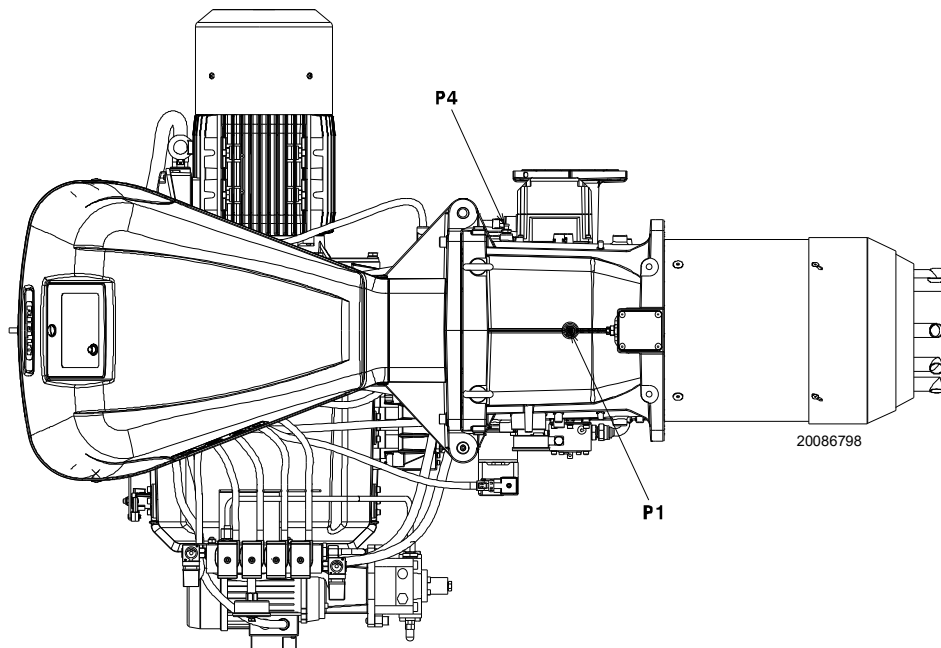

Fig. 26
Gas pressure measured at the test point P1)(Fig. 26), with:
- subtract the combustion chamber pressure from the gas pressure measured at test point P1) (Fig. 26 on page 29).
Gas pressure at test point P1) (Fig. 26 on page 29) = 24.3 mbar
To calculate the required gas pressure at test point P1) (Fig. 26 on page 29), set the MAX output required from the burner operation:
- Read, on the right (column 1), the pressure at the test point P1) (Fig. 26 on page 29).
Pressure required at test point P1)(Fig. 26).